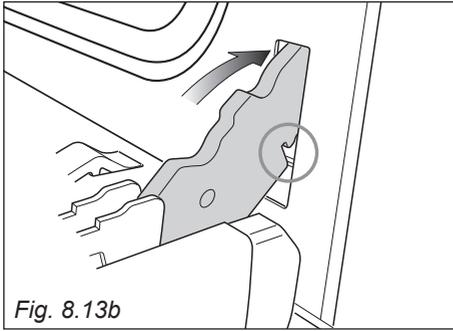

Fig. 8.13b
2. Insert the hinge tongues into the slots, making sure that the groove drops into place as shown in the figure 8.13b.